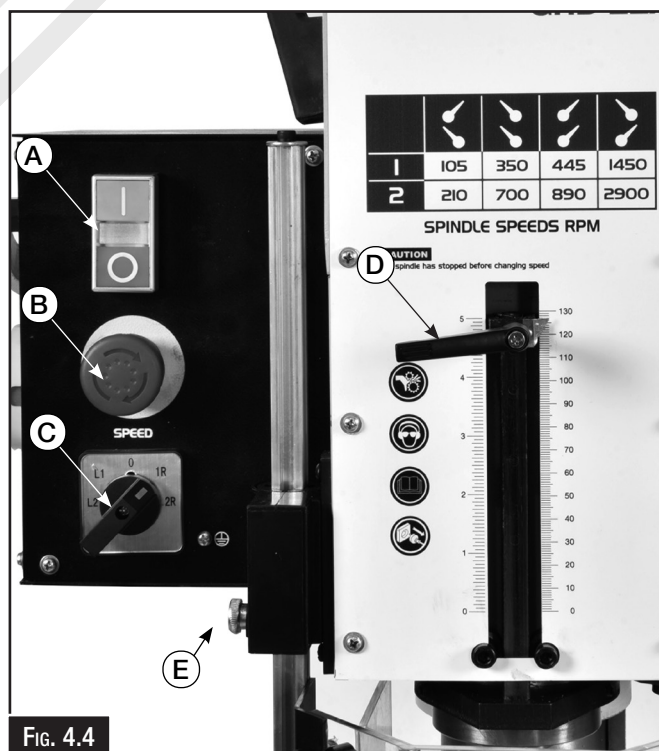

FIG. 4.4
- A. **ON/OFF Buttons:** Switches the motor ON or OFF. (Fig. 4.4)